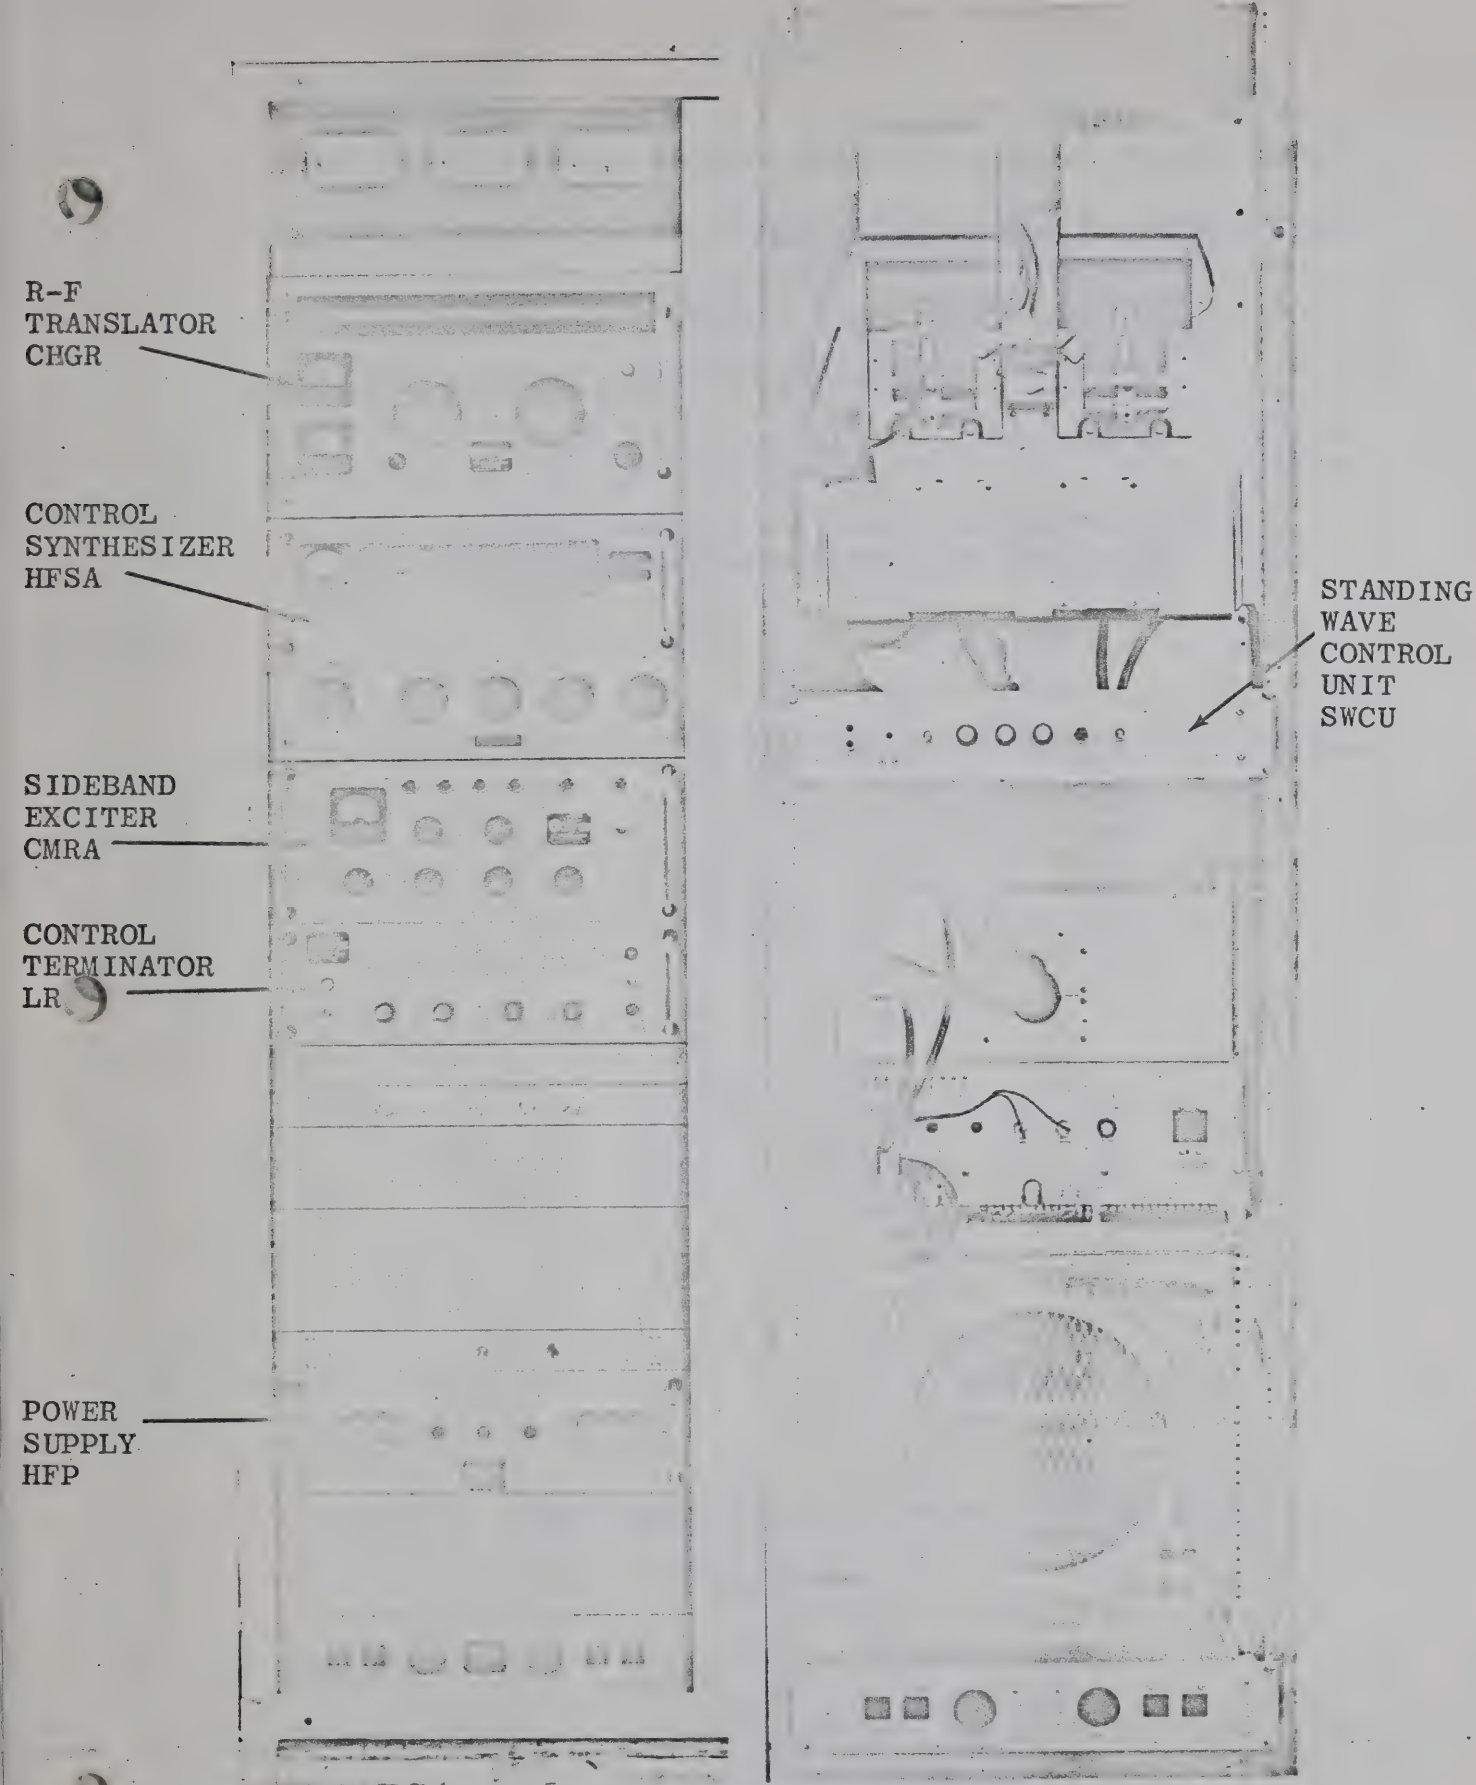

Figure 4-8. Front and Rear of the Auxiliary Frame, Installation Diagram.
frame and install it in the rear of the auxiliary frame as indicated in figure 4-8 and diagram in section 6.
- c. Install each drawer assembly in its designated position, figure 4-8, in the auxiliary frame as it is unpacked. To install any drawer assembly, proceed as follows:
- (1) Untape or unstrap cable assemblies, cable retractors, and all other components secured to the inside of frame for shipment.
- (2) Pull center section of the frame drawer tracks out until they lock in an extended position.
- (3) Position the drawer slides in the frame drawer tracks; ease drawer in until lock buttons (on drawer slides) engage in holes of the frame drawer tracks.
- (4) Where applicable, pull tilt handles on sides of drawer and position drawer vertically.